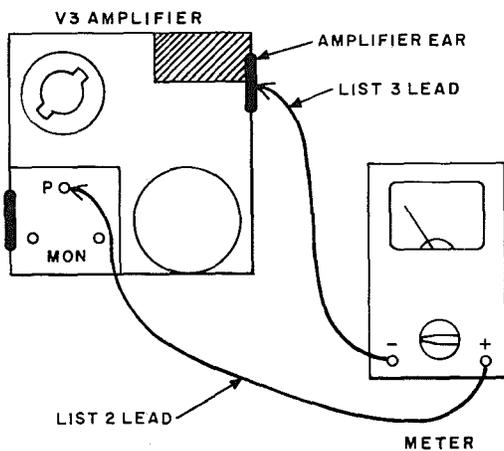

Fig. 8—Cathode Activity Test
KS-14510 volt-ohm-milliammeter (VOM) with one list 2 lead and one list 3 lead (alligator clip). The KS-14510 VOM or equivalent is recommended for general application to tube tests on V3 repeaters (Fig. 8).
2	Using test leads as shown in Fig. 8, establish connections to the (P) pin jack of the amplifier unit and one to the ear (ground).
3	Using test leads as shown in Fig. 8, establish connections to the (P) pin jack of the amplifier and one to the amplifier ear (ground).